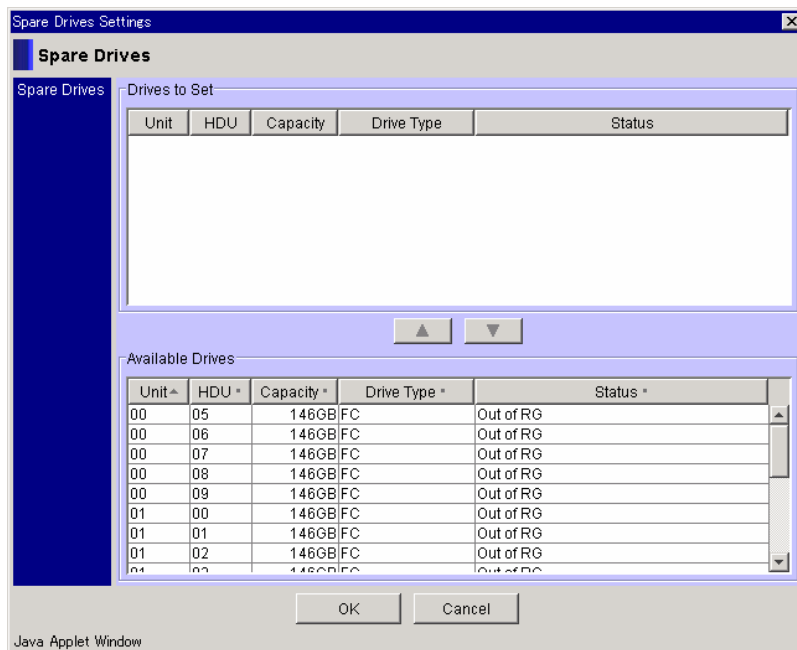

Figure 6.5 Spare Drives Settings Dialog Box
3. Click **Set**. The **Spare Drives Settings** dialog displays. See Figure 6.5.